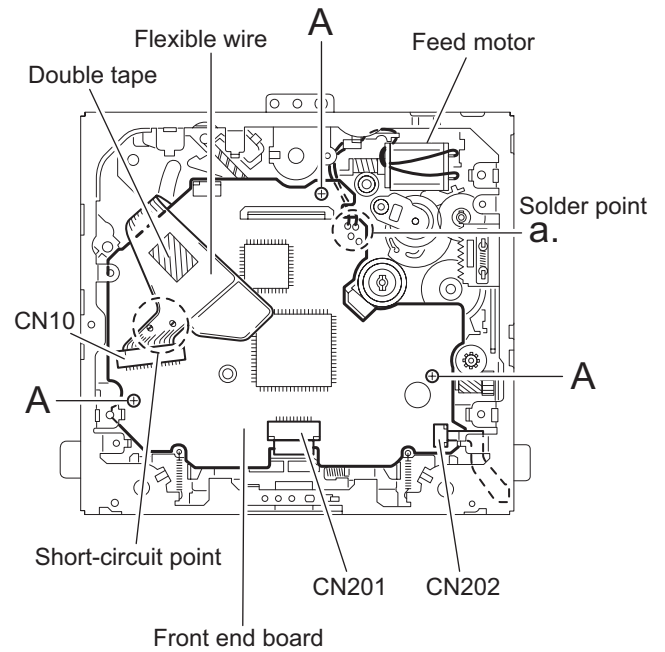

Fig.1
3.2.1 Removing the front end board (See Fig.1)